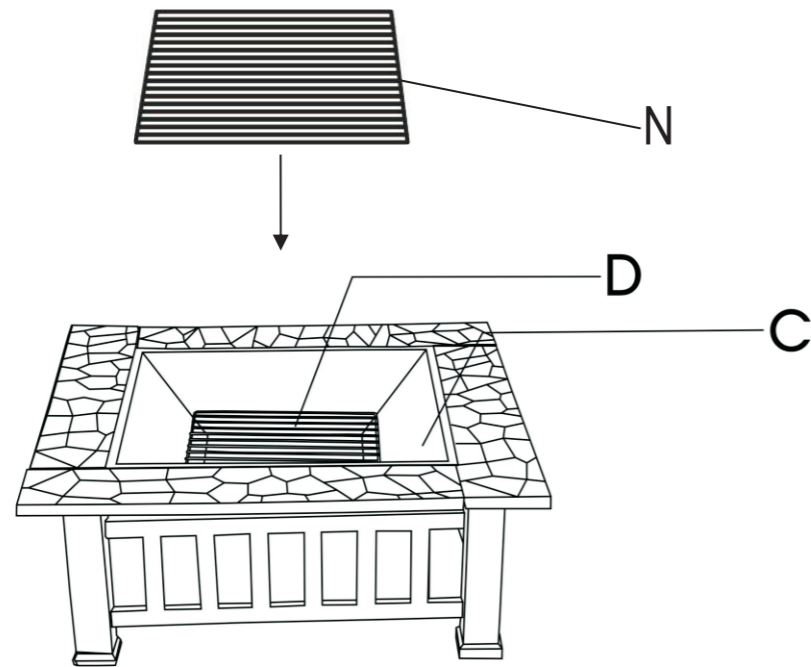

FIG 4
Step 4 Tighten all the bolts accordingly with an Allen Wrench (M) (provided) until all pieces fit together securely. Then turn the assembled fire pit frame over so that it sits securely (legs down) on a flat surface. Place Square Bowl (C) on the base and put Log Grate (D)&Grill(N) in the Square Bowl (C). (View Fig 4)